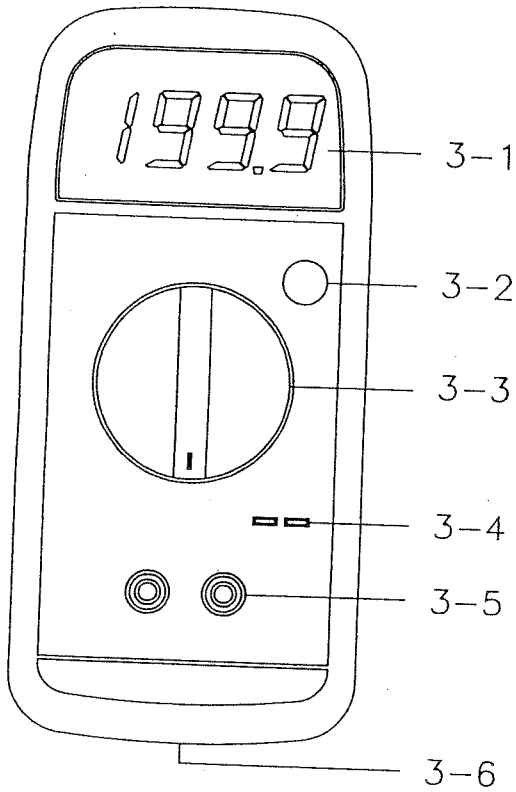

Fig. 1
- 2) Slide the " Battery Cover " (3-6, Fig 1), away from the instrument and remove the battery.
- 2) To replace the fuse, slide the " Battery Cover " (3-6, Fig. 1), the fuse is located near the right side of the battery compartment.